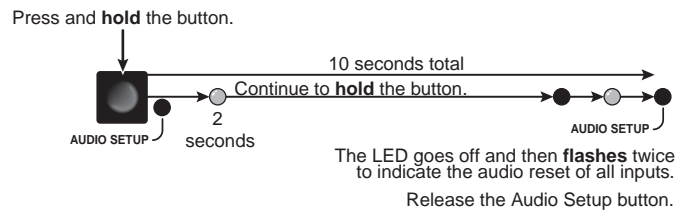

Figure 3-40 — Reset all input levels
1. Press and **hold** the Audio Setup (I/O) button for approximately 10 seconds (figure 3-40).